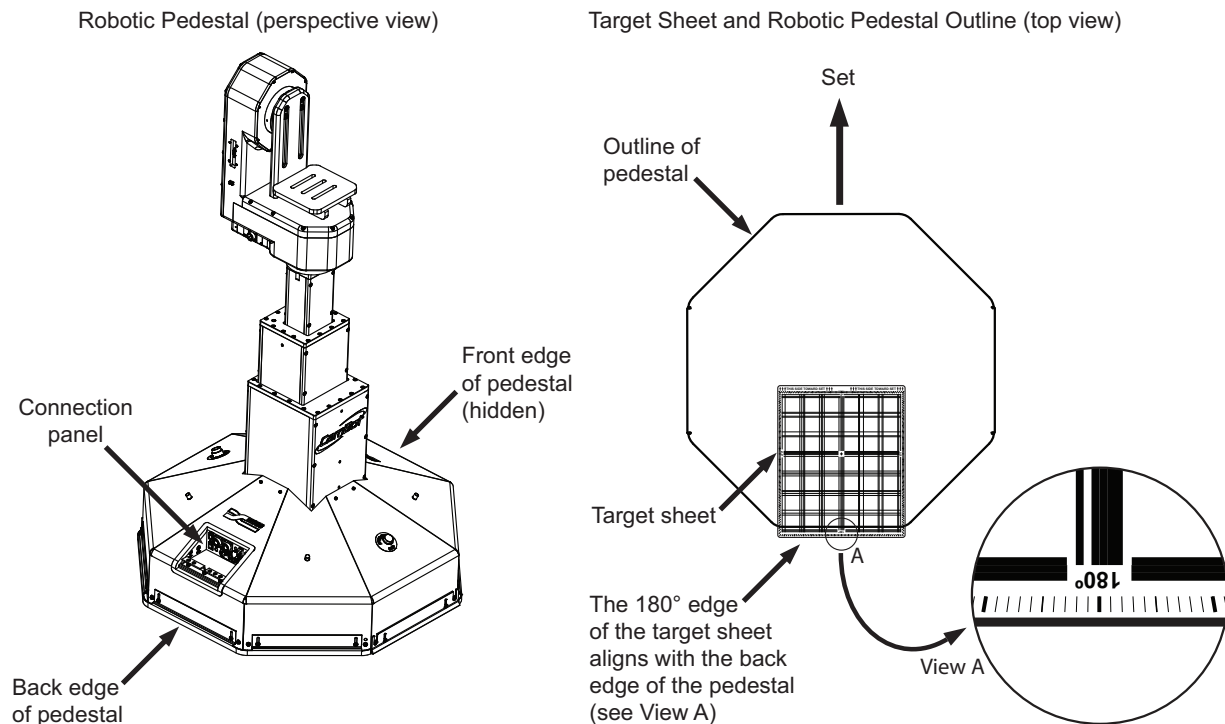

Figure 11 - Positioning the CamBot Pedestal Over the Target
- Use the joystick panel controls to position the pedestal over the target such that the front edge of the pedestal points toward the set, and the back edge of the pedestal is aligned with the **180° side** of the target. See **Figure 11**, below.
- Use the local control box (optional accessory) to position the pedestal over the target such that the front edge of the pedestal points towards the set, and the back edge of the pedestal is aligned with the **180° side** of the target. See **Figure 11**, below.